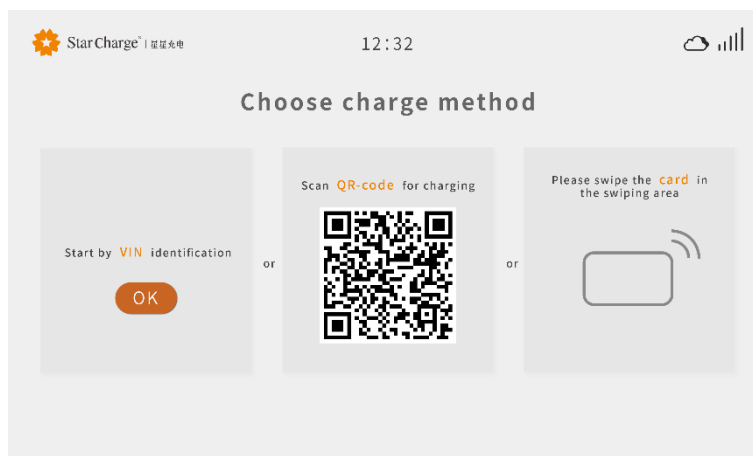

Figure 3-11 Charging method selection
Step 2 Enter the charging mode selection interface, please select the scan code mode, as shown in Figure 3-11.